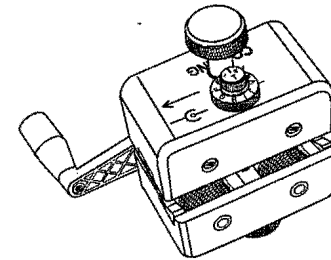

Figure 1
1.1 The Corning Cable Systems Universal Access Tool 3 (UAT3) is designed to access individual fibers or ribbons in single tube cables in a mid-span location (Figure 1). The tool, Corning Cable Systems part number UAT3-000, is designed to access fibers in buffer tubes from 5 to 24 mm in outer diameter.